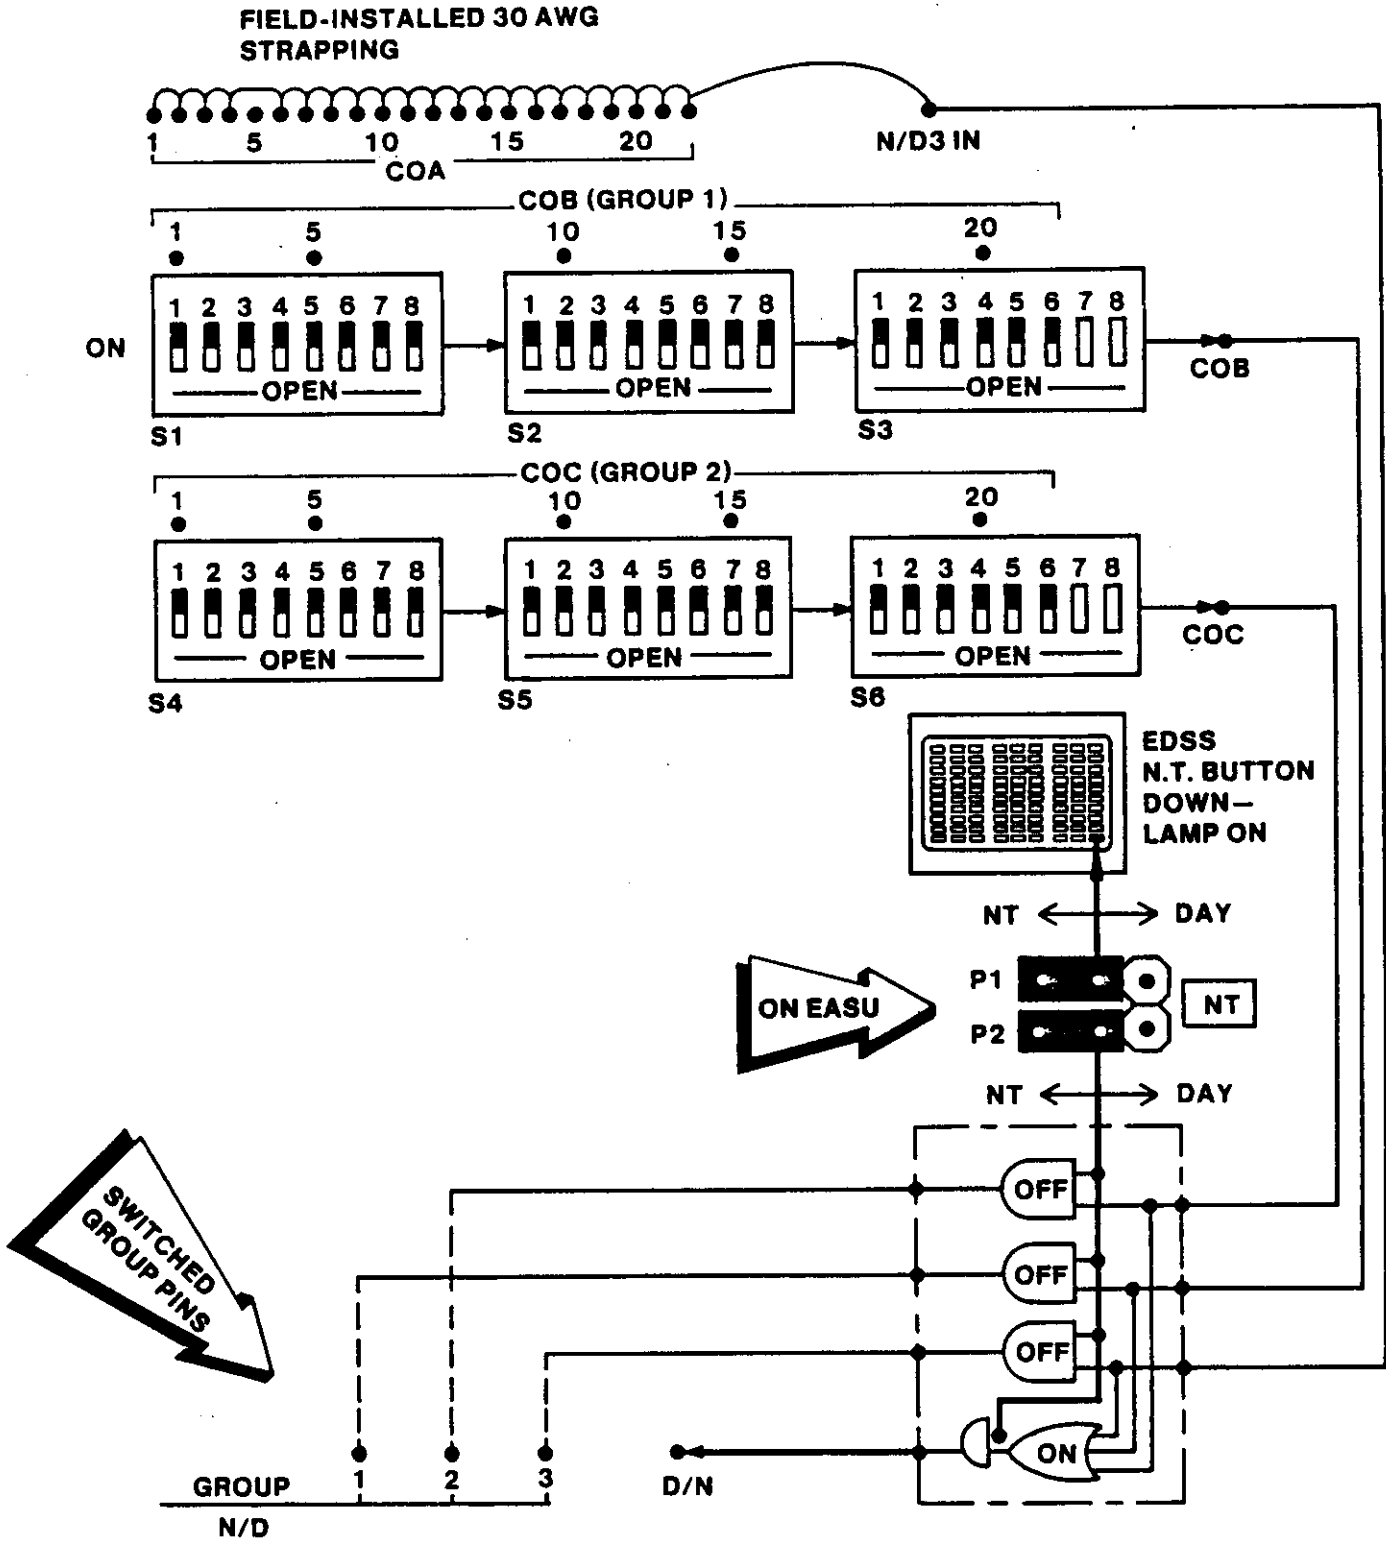

FIGURE 6 - COMBINED RINGING WITH N.T. FEATURE ON
2.5.8.10 By moving the N.T. option plugs to the "NT" positions the operation of the N.T. feature as described above is reversed. GROUP PINS 1, 2 and 3 will be active when the N.T. feature is idle (lamp off) while ALL GROUPS pin D/N will be active when the N.T. feature is on (lamp on). Refer to Figures 6 and 7.